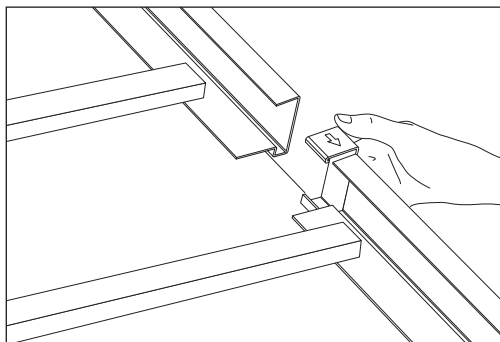

Fig 4 Connector units
- 5 Where necessary, a connector unit is fitted at joints between extrusions (Fig 4).